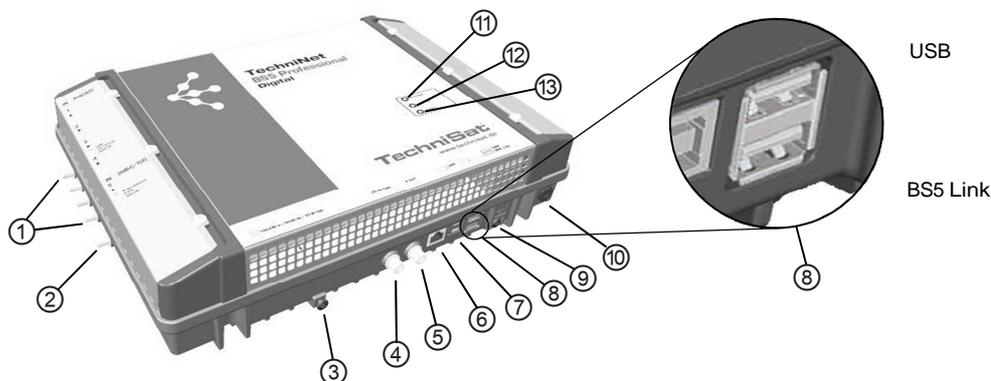

Fig. 1: Device elements
- Do not open the casing and do not modify the device. Otherwise the guarantee and warranty will become void. Exception: Cover of the CI slots (Ⓔ in Fig. 1, S. 3)
1. Connect a potential equalization wire (Cu, $\geq 4 \text{ mm}^2$) to the earthing screw; see ⑨ in Fig. 1, P. 3.
- The plugs must be inserted into the master and slave at the appropriate BS5 Link interface ports (⑧ in Fig. 1).
4. Connect the RF signal cables for the antenna, cable network and output to the head-ends; see ①, ② und ⑤ in Fig. 1, P. 3. Make sure the input and output cables are correctly assigned to the master and the slave.²⁾